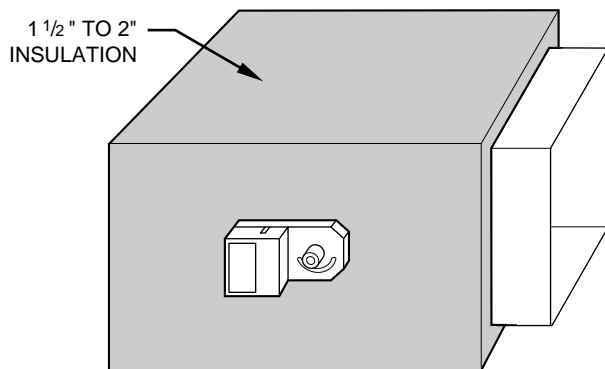

Fig. 7—Insulated Rectangular Metal Ductwork A95131
3. Insulate damper using 1-1/2-in. to 2-in. insulation. (Check your local codes.) (See Fig. 7.)